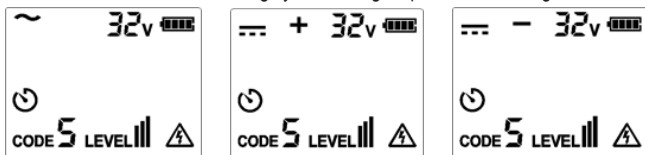

Figure 10.1.2a Voltage over 30V
2. Test and confirm if the connection of test leads is correct. For circuit with voltage over 30 V AC/DC, the warning symbol will light up, as shown in Figure 10.1.2a.